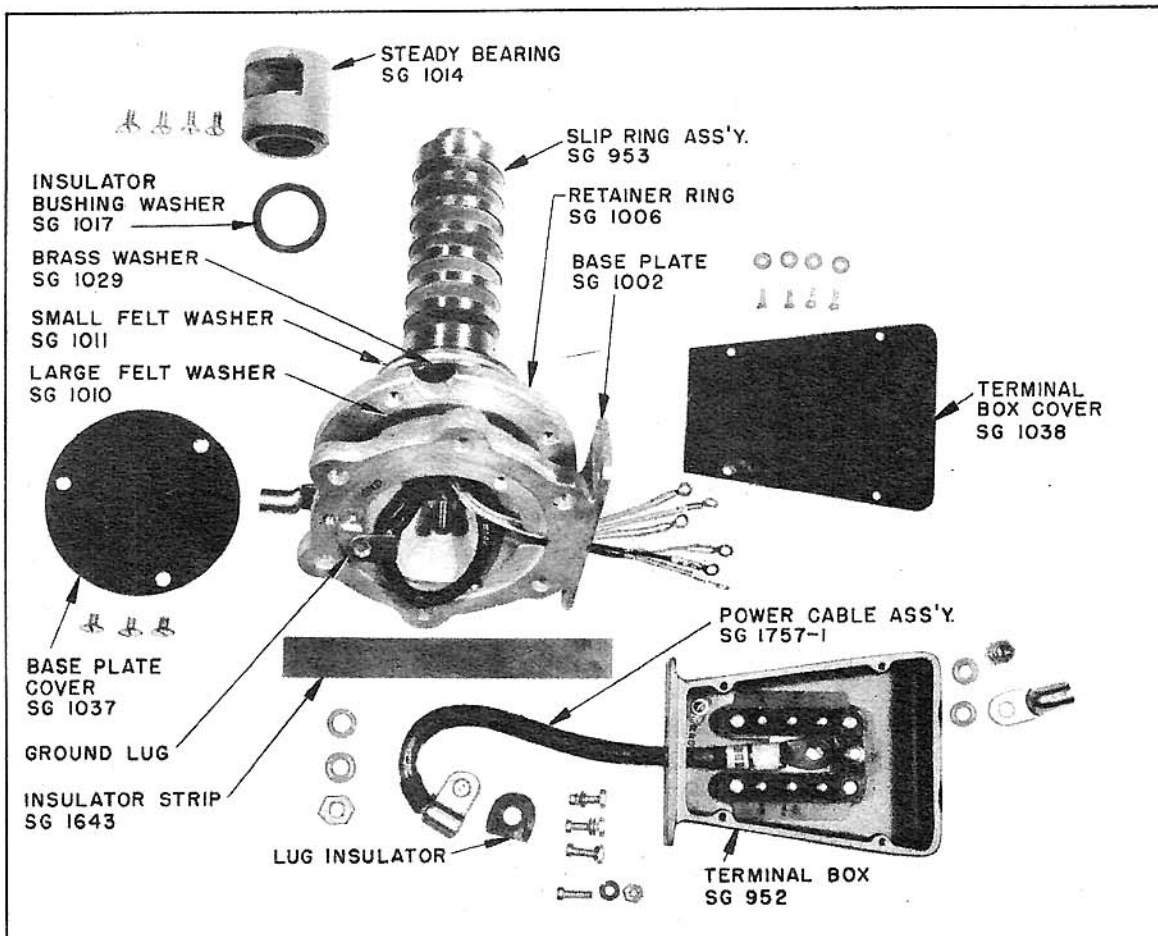

FIGURE 41
which covers platform assembly and brush holders, insert slip ring assembly (SG 953) into small felt washer (SG 1011), brass washer (SG 1029), retainer ring (SG 1006), and base plate (SG 1002). (See Figure 41.)
(b) Fasten power lead to 3/8" brass bolt in slip ring assembly (see Figure 41) by means of a lug, lug insulator, plain washer, lockwasher and a 3/8" brass nut. Draw wires through terminal box axis hole.
(2) Ground Lug. - (a) Insert ground wire lug into recess marked "GND" on base plate. (See Figure 41.)
(5) Slip Ring into Platform Casting. - (a) Referring to Figure 41, place insulator
(3) Terminal Box. - (a) Fasten terminal box (SG 952) to base plate, using 4 fillister head screws (10-32, 5/8") and lockwashers and nuts. (See Figures 41 and 42.)
(c) Be sure to ground shield of telephone cable to round head screw marked "GND" in terminal box casting. (See Figure 41.) Tighten screw securely.
(f) Distribute wires THM, TM2 and DCG through opening in steady bearing (see Figure 41) to right hand brush holder opening.